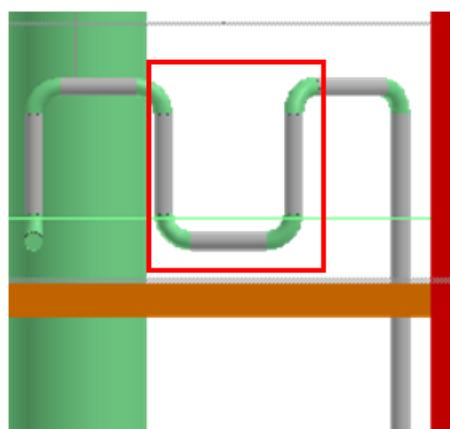

Figure 3.28: Area for the Pipe to be Placed
43. Now, place a **3 inch** NPD bypass above the main pipe in between the pipes highlighted in Figure 3.28. Use the **Common Views** button to change the view to **Looking North**.